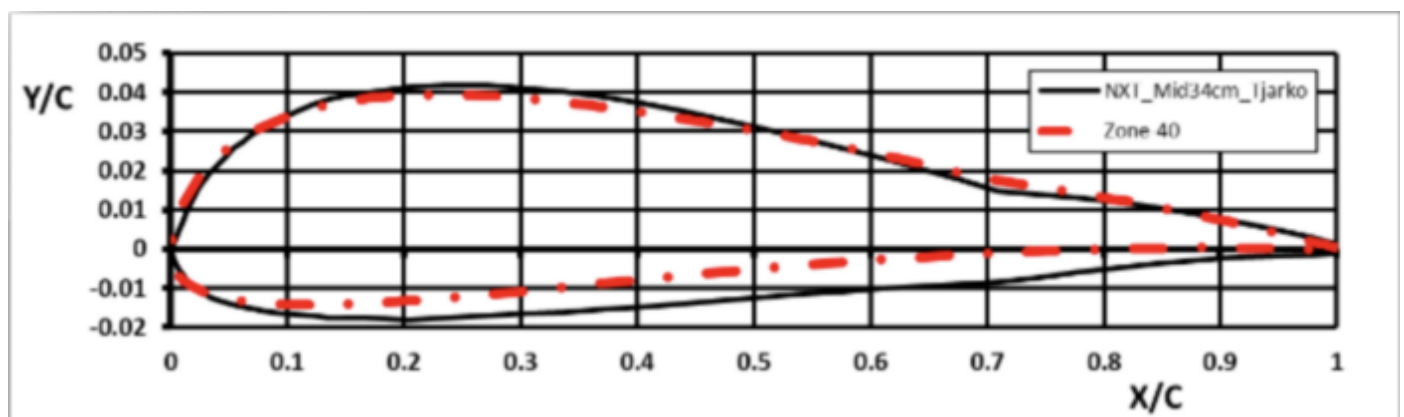

Figure 13: Comparison geometry measured NXT airfoil at 34 cm from the root with the V1 Zone — 40 airfoil.
**Using the Zone V1 airfoils:** Figures 13 and 14 show a comparison that is interesting for self-builders. In the XFOIL calculations, the measured airfoil coordinates are replaced by the Zone V1 airfoils often used by self-builders. These are optimized for Reynolds numbers 52000, 40000 and 25000. The airfoils for the root, mid and tip respectively are thinner by 0.17%, 0.70% and 0.63% than the NXT airfoils.